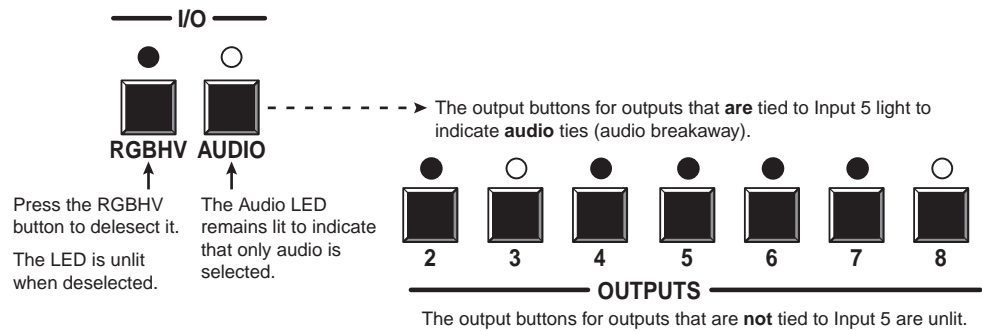

Figure 3-25 — Deselect RGBHV to view audio ties only
- Press and release the RGBHV button to deselect RGBHV (figure 3-25).